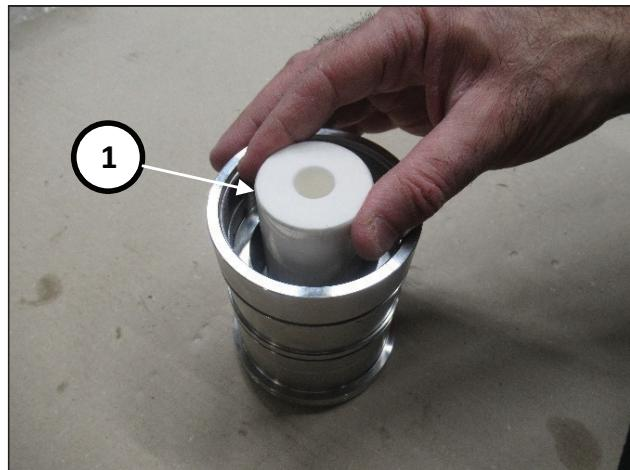

Fig. 175
Place the liner vertically on a plane and insert the piston (pos. ①, Fig. 175) paying attention to the correct positioning (large hole upwards)